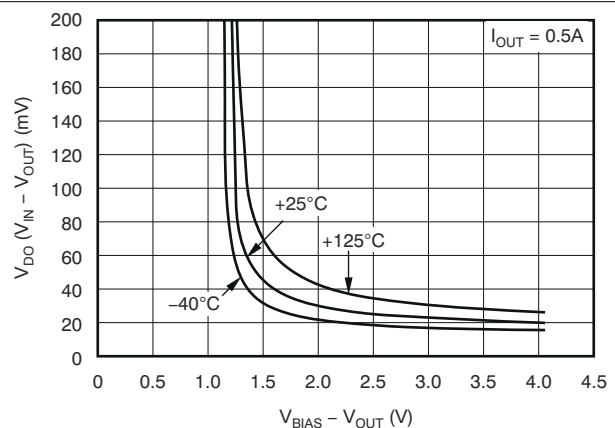

FIG 6-6. Dropout Voltage vs $(V_{BIAS} - V_{OUT})$ and Temperature (T_J)
- (1) Adjustable devices tested at 0.8 V; resistor tolerance is not taken into account.
(2) Dropout is defined as the voltage from V_{IN} to V_{OUT} when V_{OUT} is 3% below nominal.
(3) 3.25 V is a test condition of this device and can be adjusted by referring to Figure 6-6.